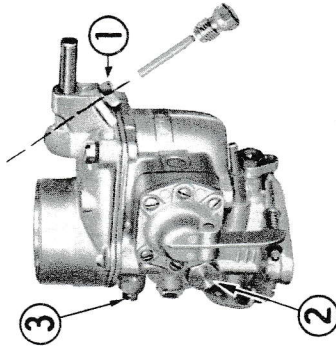

Figure 16
They usually require no maintenance other than cleaning the filter screen when necessary. This is done by dipping the screen in gasoline and cleaning it off by air blast. To remove the filter loosen nut **1** (fig. 16).
- the main jet **2** (fig. 16);
- the idling jet **3** (fig. 16).